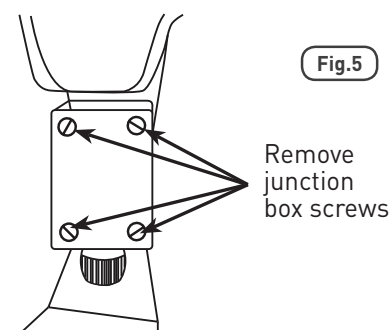
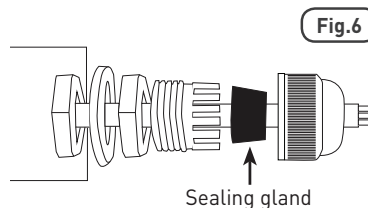

Fig.5
Fig.6
- Prior to installing the floodlight the cable gland needs to be attached by undoing the four screws from the wiring box, removing the cover (Fig.5) and fitting the gland to the wiring box, as shown in (Fig.6).